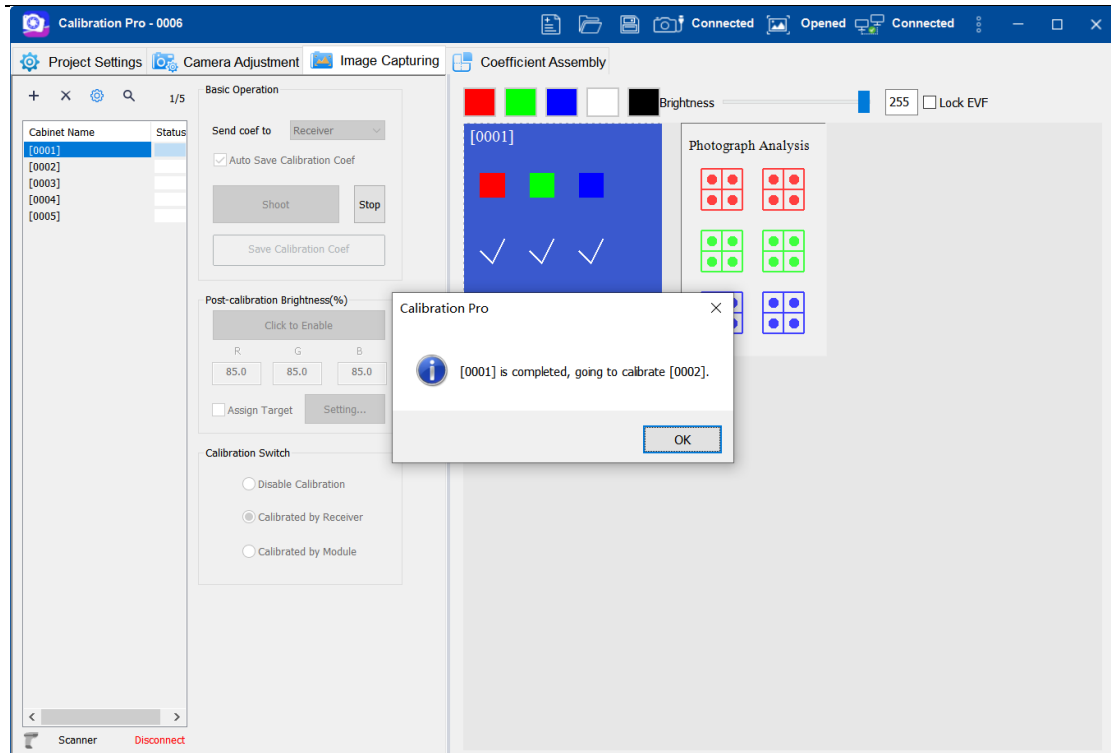

Fig.4-5 Finished
3. After saving the calibration coefficient, it will pop up a dialog box. Calibration mode will be turned on automatically in i series mode, if in classic mode, you need to turn it on manually. Click [**OK**] on the dialog box, it will switch to next cabinet automatically, by switching to different colors, you can check calibration effect. as Fig.4-5 shown.